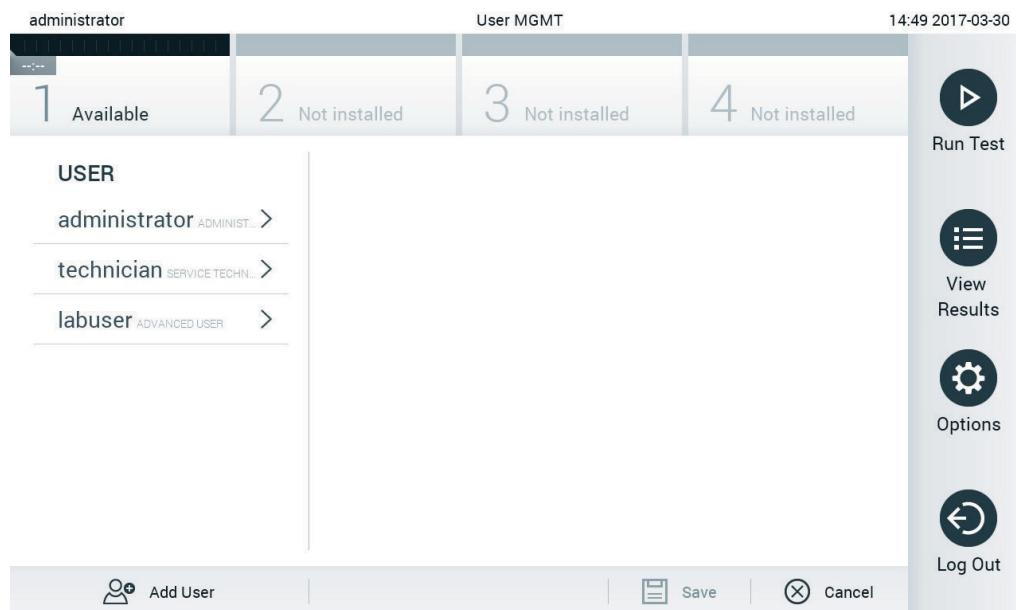

Figure 58. The User Management screen.
1. Press the **Options** button and then the **User Management** button to configure users. The **User Management** screen appears in the content area of the display (Figure 58).